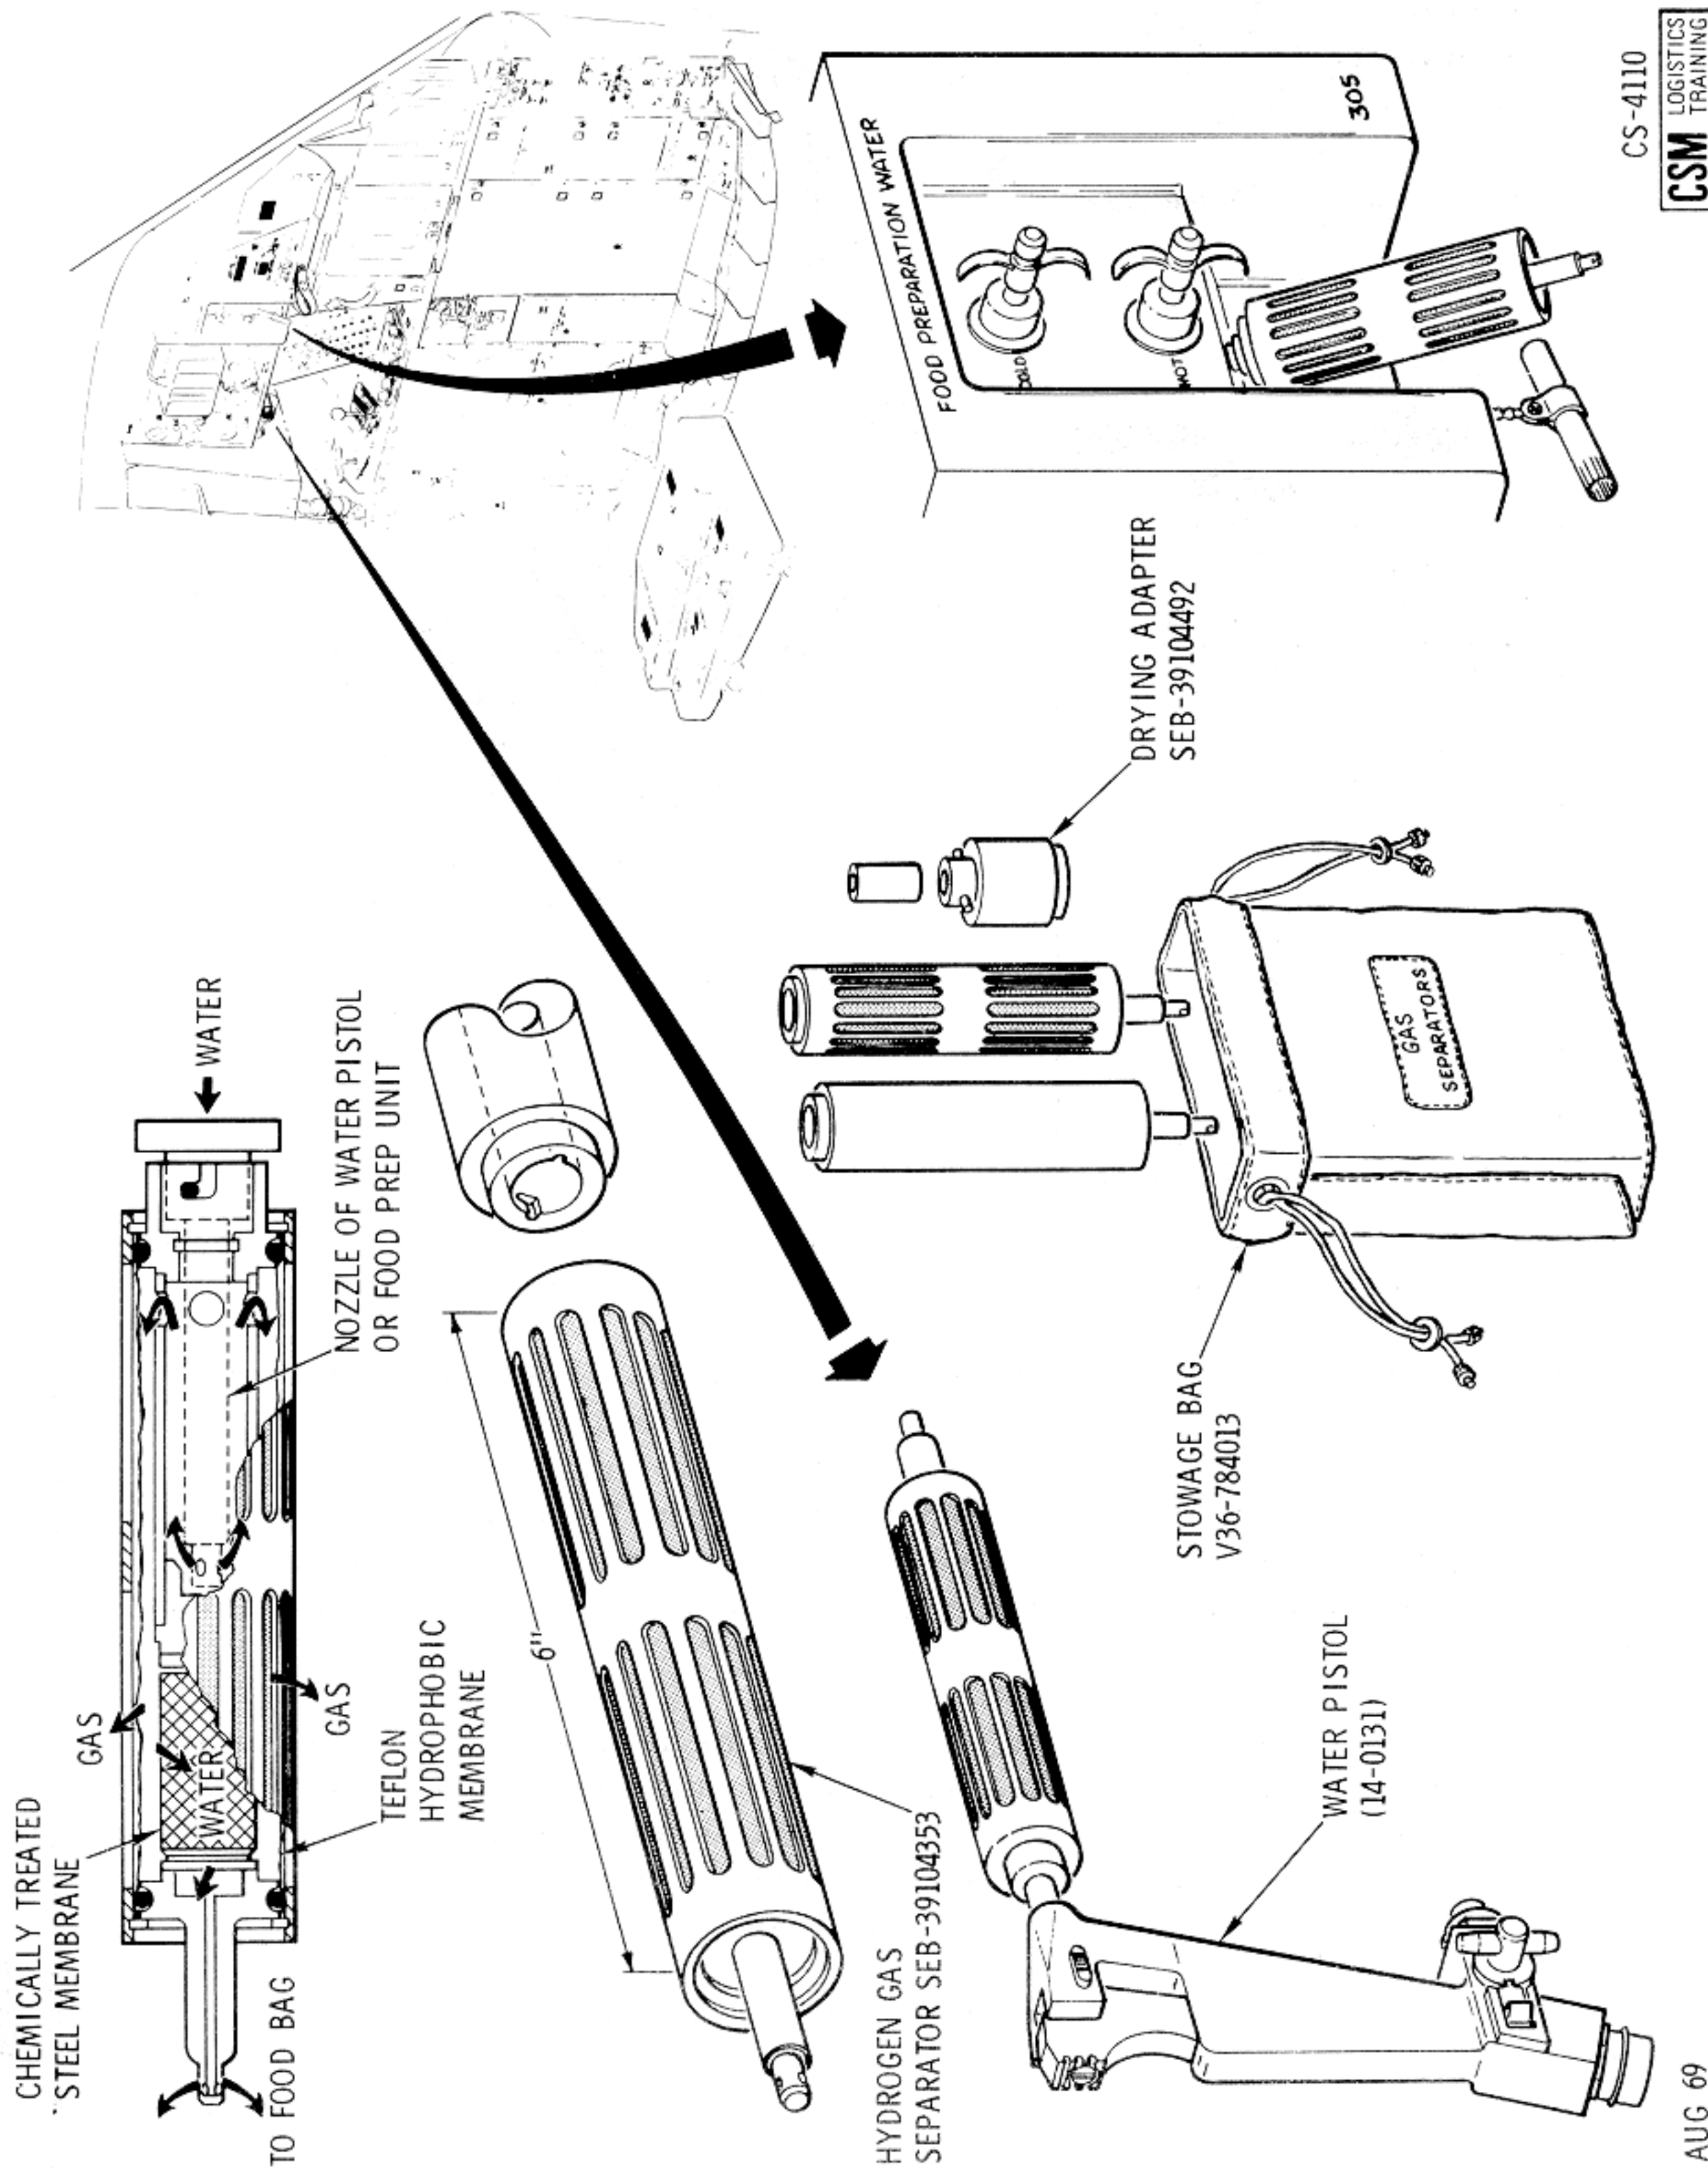

Figure 2.12-39A. Gas Water Separator
2.12.6.1.3 Gas/Water Separation (Figure 2.12-39A)